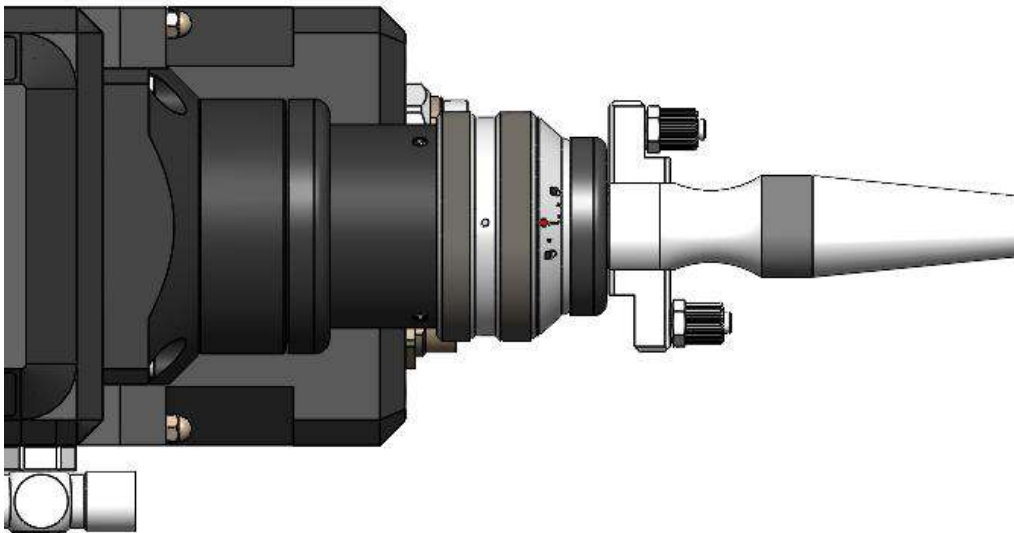

Figure 2.6
- ⑤ Rotate it to the limit position clockwise (a "thud" sound can be heard). Lift the rotation nut upward, rotate the nut again clockwise until it presses the fiber head tightly; fasten the QBH connector to locking status (rotate it to place; do not apply too much force; otherwise, the internal structure of QBH may be damaged), as shown in Figure 2.6: